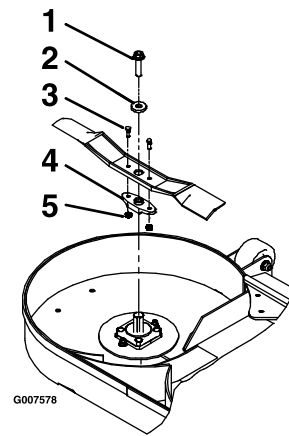

Figure 63
3. Remove the blade, washer, and blade bolt that secures the blade and blade driver (Figure 63).
4. Remove the blade driver from the existing blade (Figure 63).
1. Install the blade driver to the new blades with the shear bolts and locknuts (Figure 63).
3. Install the blade, washer, and blade bolt to the spindle shaft (Figure 63).